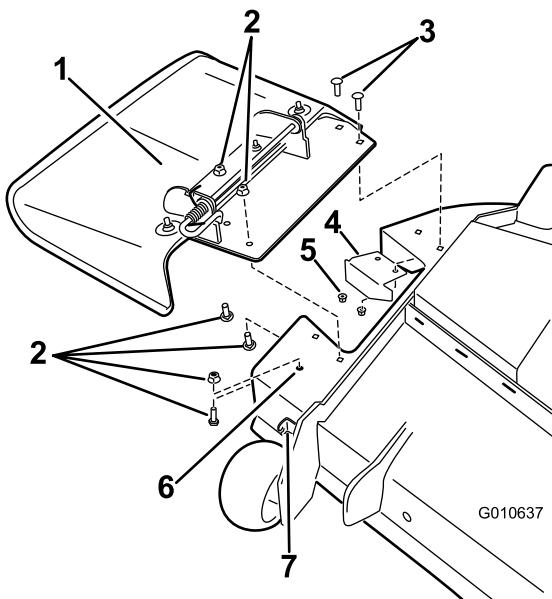
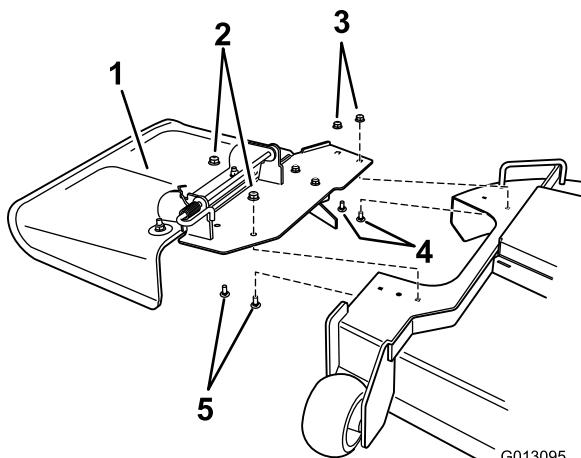

Figure 17
Figure 18
3. Install the cut off baffle (Figure 17).
4. Install the deflector assembly (Figure 17 and Figure 18).
5. For 54 inch mower decks only, replace the nut and bolt in the forward hole (Figure 17).